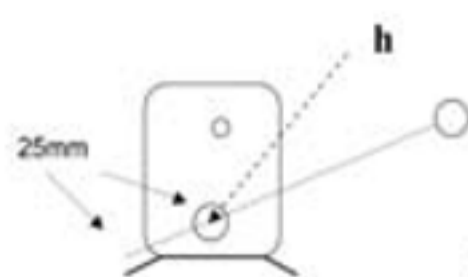

Fig. 2
3. Allow 25mm - protrude out from the 'h' point (opposite of the float arm) see Fig 2 on the next page.
9. Allow 25mm - protrude out from the 'h' point (opposite of the float arm) see Fig 2.